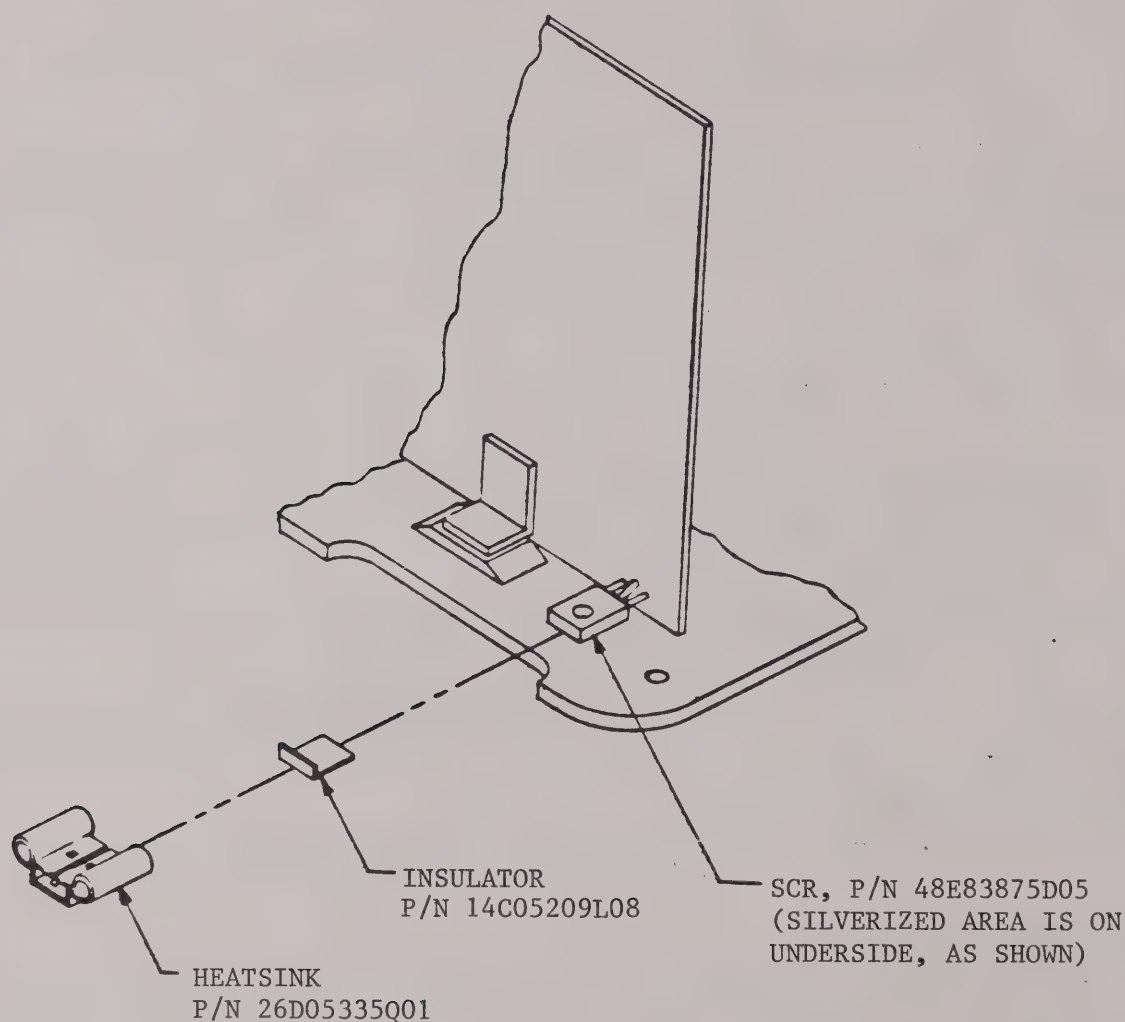

FIGURE 1
1. Remove cover from multi-unit charger by removing the six (6) perimeter screws in the baseplate.
2. Remove adhesive backing from insulator (P/N 1405209L08) and apply to underside of each of the six (6) SCR's (P/N 4883875D05) making sure to fully cover the silverized area of each SCR (see Figure 1).
3. Slide heatsink (P/N 2605335Q01) onto the SCR as shown in Figure 1, making sure not to bend or break the leads on the SCR or peel off the insulator.